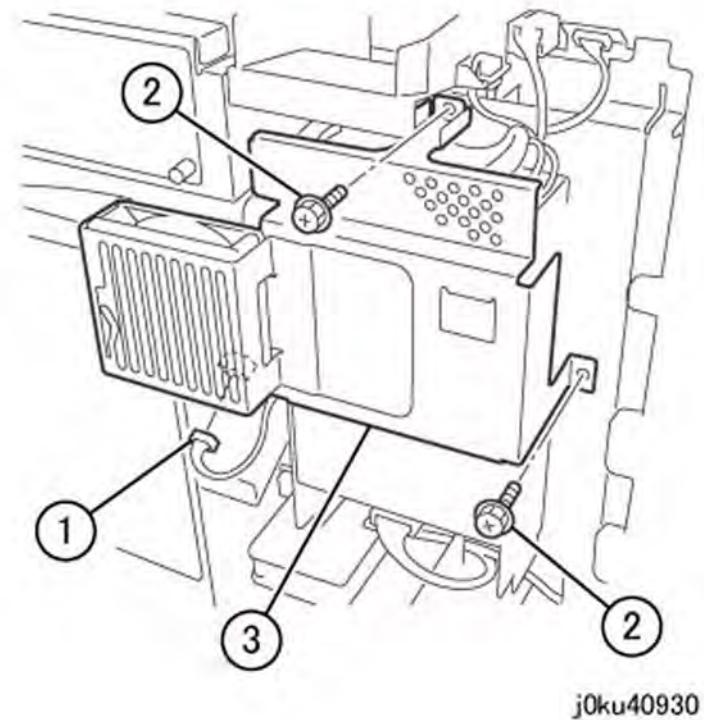

Figure 1 Removing the Developer Fan Assembly
3. Remove the Developer Fan Assembly (Figure 1).